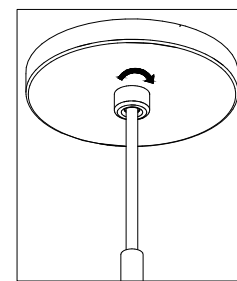

Figure 4: Canopy Mounting
6. Reattached canopy cover by turning lock screw clockwise while pressing canopy cover firmly to base. [Figure 4]